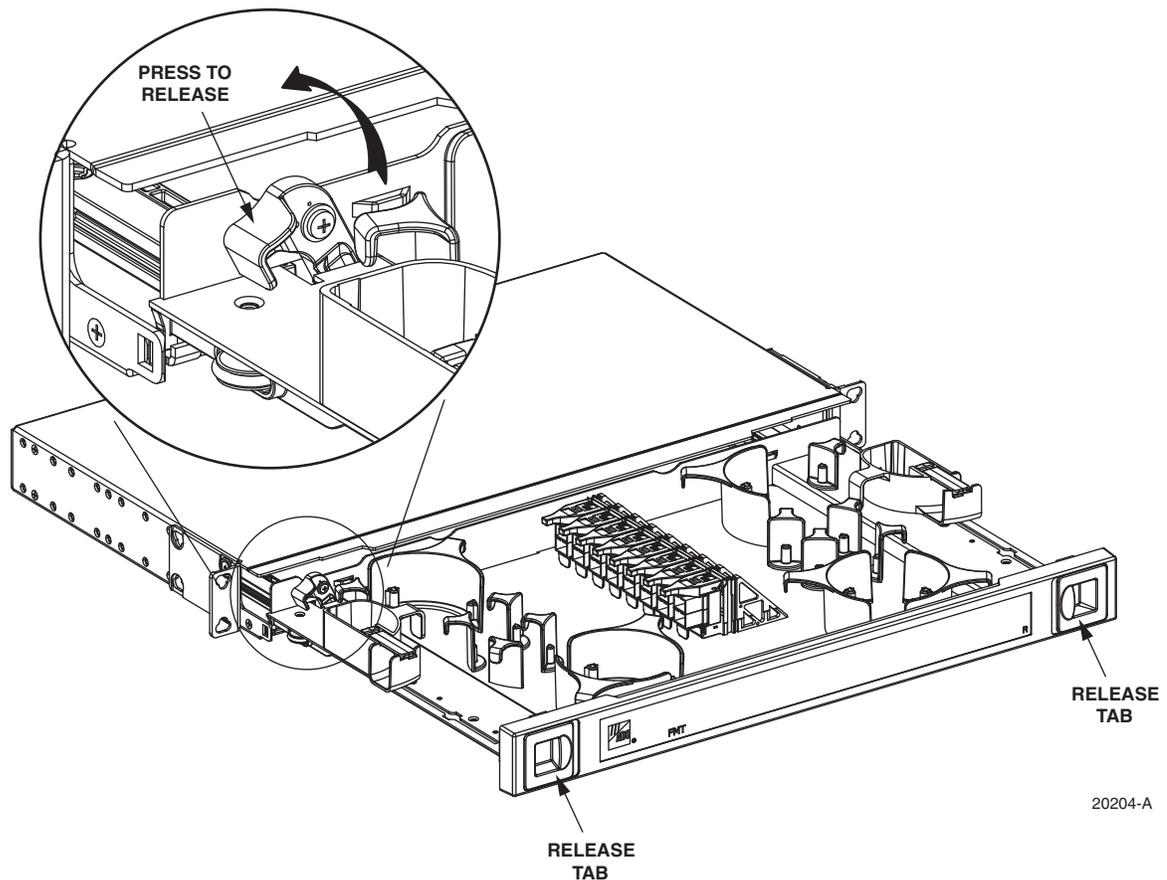

Figure 20. Tray Locked in Open Position
To open the FMT tray, slide the release tabs inward with both hands and pull the drawer straight out as far as it goes. The latch locks the tray in the open position as shown in Figure 20.
4. Release the lock open latch (“unlocked position” shown in Figure 20 on page 23).